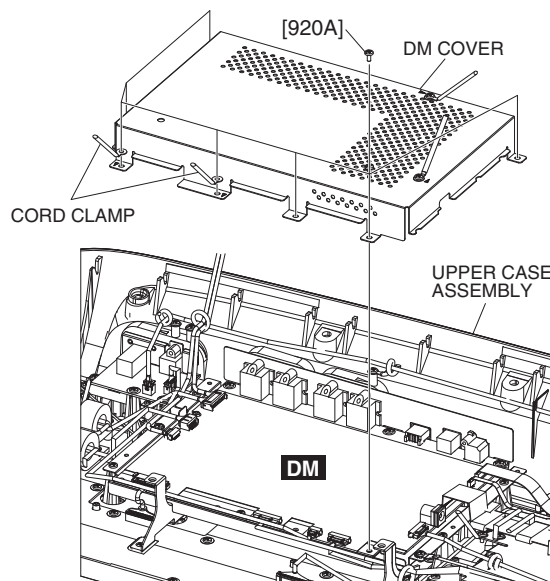

Fig. 2
- 2-1 Remove the seven (7) screws marked [920A]. The DM cover can then be removed. (Fig. 2)